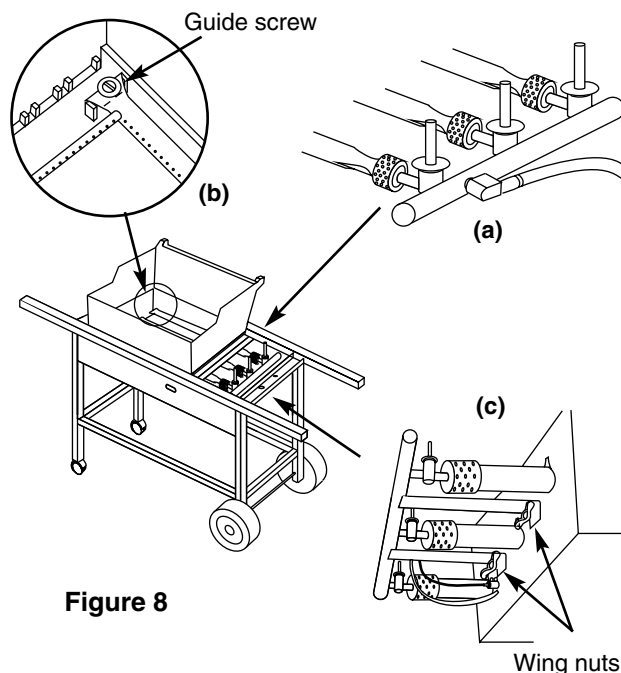

Figure 8
- Do the valves fit into the ends of the burners? Figure 8 (a).
- Are the ends of the burners under the washers at the left rear and left front of the cooking box? The screws are only guides. Do not tighten. Figure 8 (b).
- Are the wing nuts under the burner assembly hand tight? Do not tighten with pliers. Figure 8 (c).